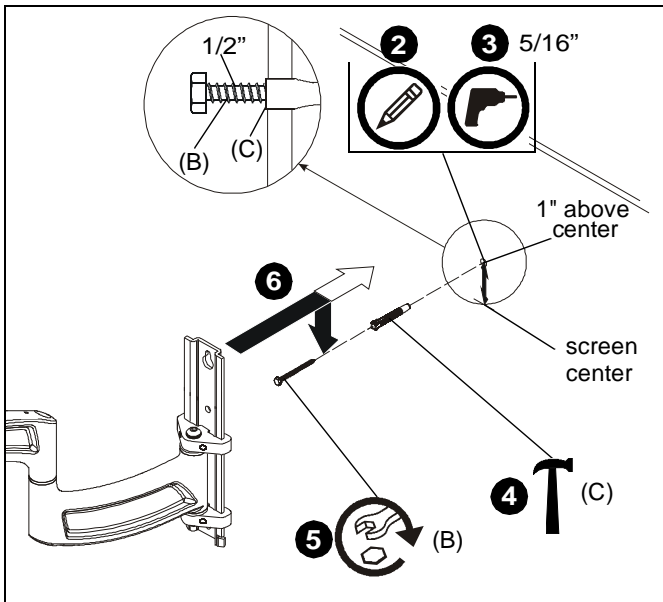

Figure 3
2. Measure 1" above desired center line and mark a hole at desired mounting location. (See Figure 3)
3. Drill one 5/16" diameter hole at location marked in Step 2 with a depth of 3 1/4". (See Figure 3)
5. Install one 1/4 x 2 1/2" lag bolt (B) into concrete anchor (C), leaving bolt hanging out 1/2" from the wall. (See Figure 3)
6. Hang arm assembly (Z) onto lag bolt (B) by latching key-shaped hole over top of bolt. (See Figure 3)
4. Install one concrete anchor (C) into drilled hole. (See Figure 3)